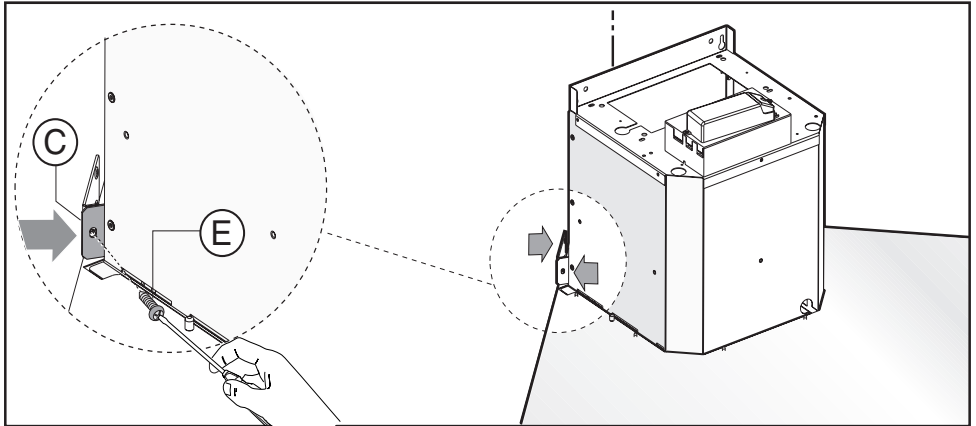

Fig.4
- Align the hood with bracket **C** (fig. 4) and fix it in place using screws **E**.